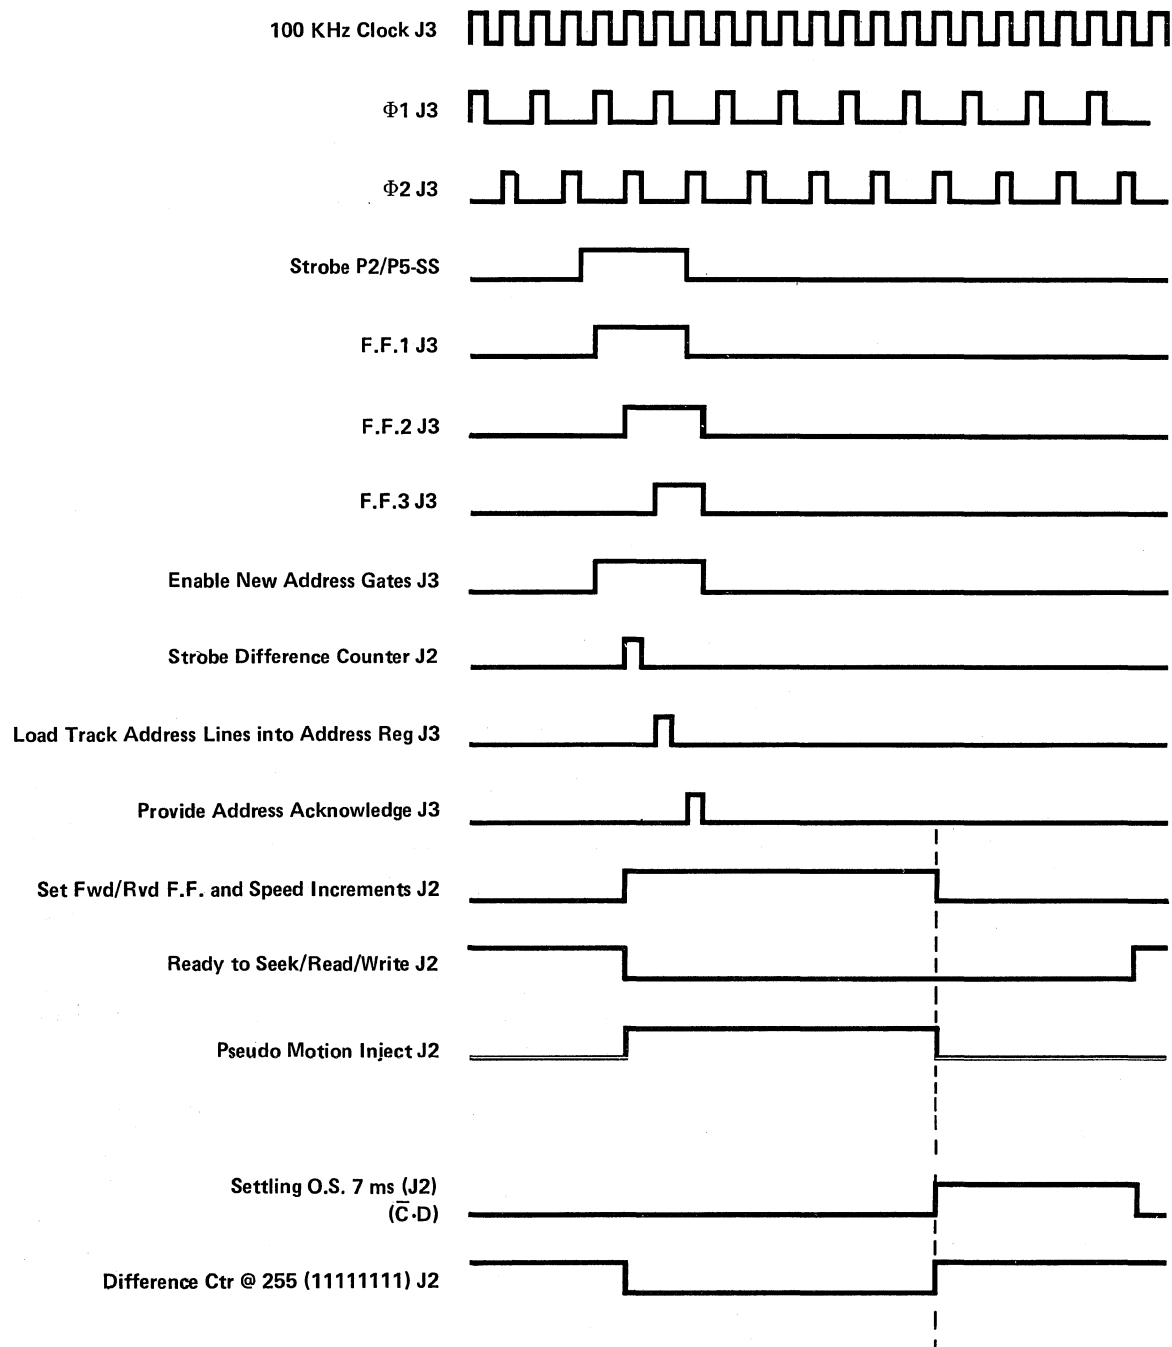

Figure 4-9 SEEK OPERATION TIMING CHART
4.8 HEAD POSITIONING/SEEK OPERATION (See Figures 4-9 and 4-10, Schematics J1, J2 and J3)